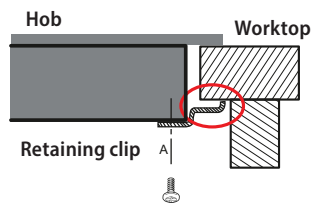

Fig. 8
12. Secure the hob in the required position from the bottom to the worktop with the supplied retaining clips (Fig. 8).